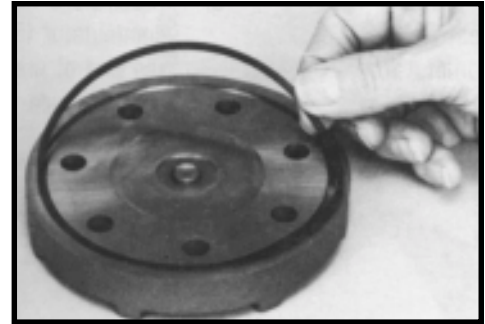

Figure 63
22. Assemble a **new** seal ring (4) into end cover (2) and assemble end cover over the alignment studs and onto the commutator set. SEE FIGURE 63, 64. If the end cover has only 5 bolt holes be sure the cover holes are aligned with the 5 threaded holes in housing (18). The correct 5 bolt end cover bolt hole relationship to housing port bosses is shown in FIGURE 65.